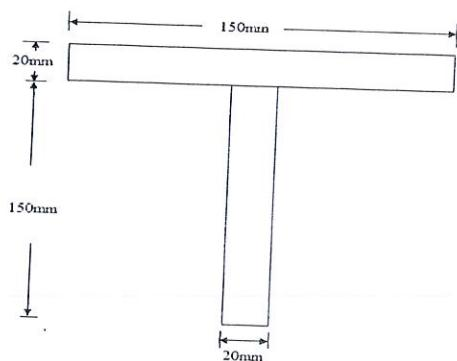

Figure B1 / Rajah B1
- (c) A simply supported beam with a symmetrical T-section as shown in **Figure B1** is subjected to a uniformly distributed load. The bending moment maximum, M_{\max} is given as $40 \times 10^3 \text{ kNm}$.